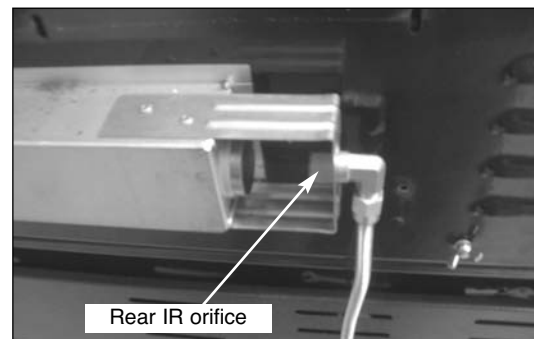

Fig 14
16. Use a wrench to remove the LP orifice on the rear IR burner and replaced it with the NG orifice provided in the conversion kit. (See Fig. 14)